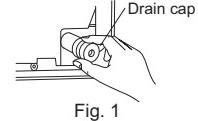

Fig. 1
- The drain hose should point downward for easy drain flow. (Fig. 1)
- Pull out the drain cap at the rear right of the indoor unit. (Fig. 1)
- Cut the copper pipe correctly with pipe cutter. (Fig. 1, 2)